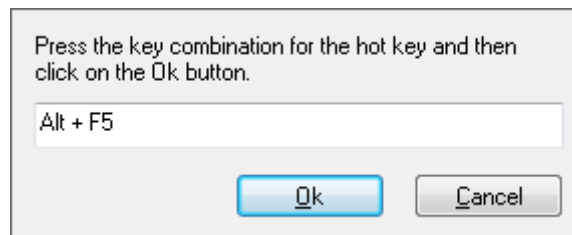

Figure 114 - Hot Key Assigned
1. To assign a **Hot Key**, press the keys that you want to use to activate the selected layout and they will appear in the input box as you type them. This is shown in **Figure 114**.